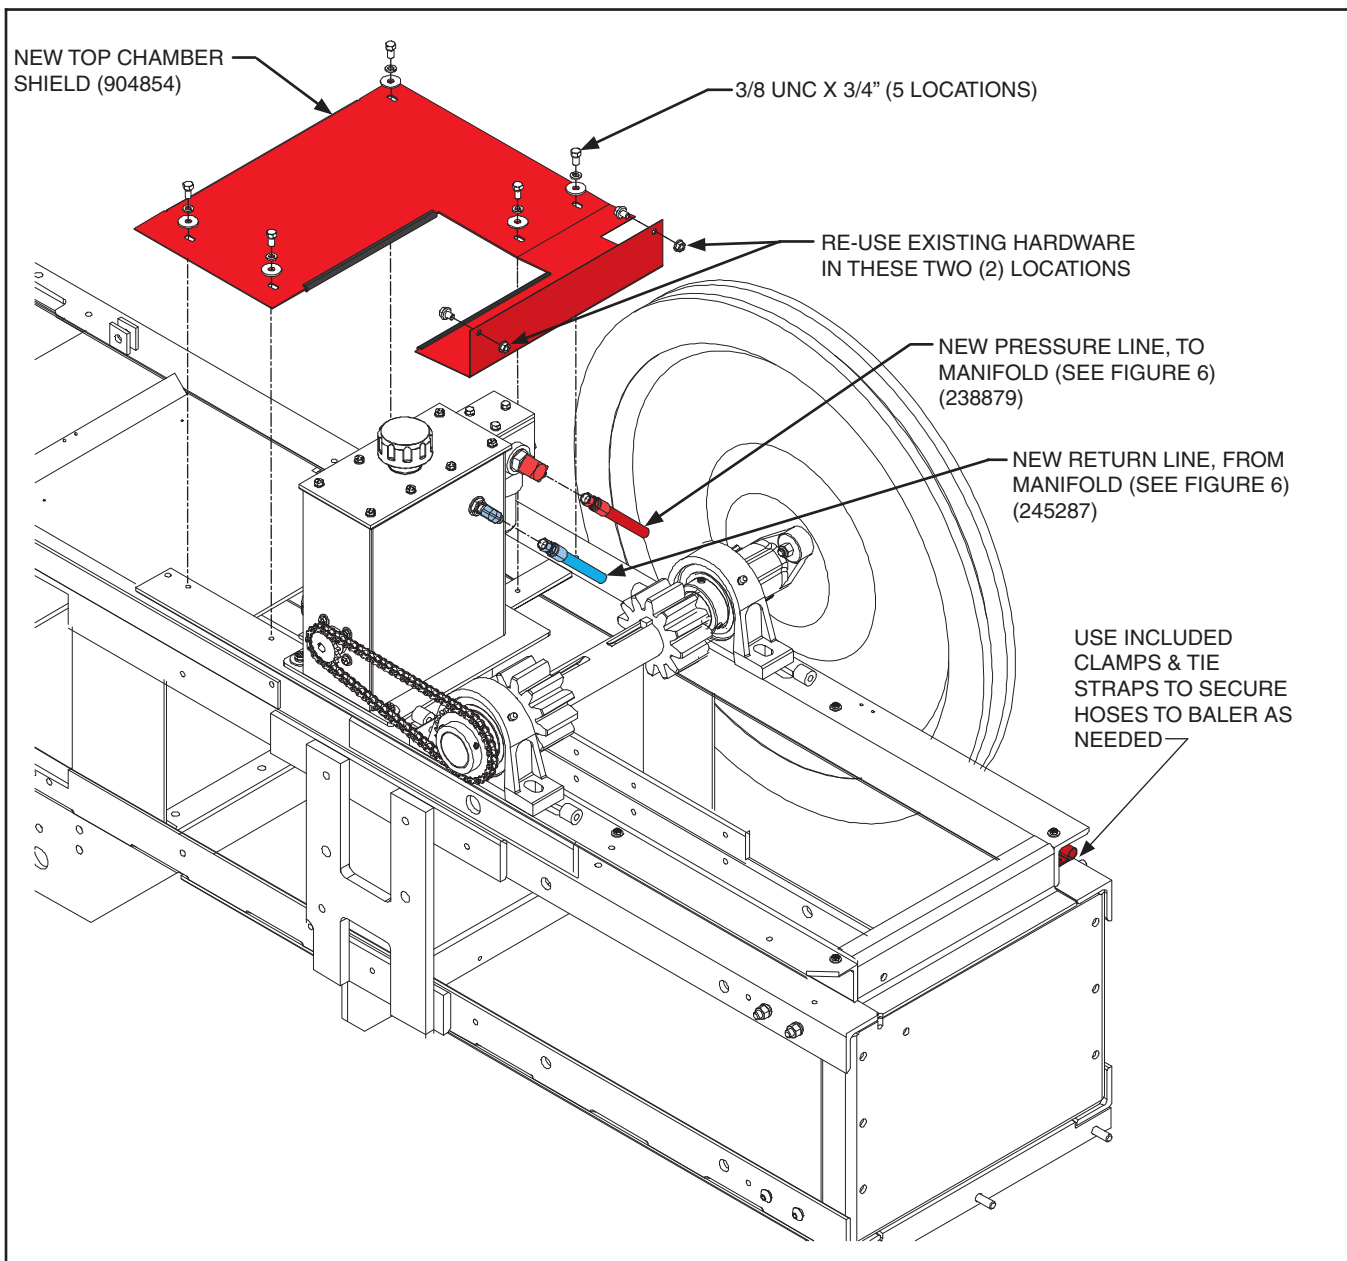

Figure 5
10. Install the new Top Chamber Shield using the provided fasteners (3/8"-16 UNC Cap Screw x 3/4", 3/8" Lockwasher, 3/8" Flat washer) and the existing hardware removed in step #3 (See Figure 5).
12. Install the new Hydraulic Hoses (See Figures 5 and 6). Connect the Pressure Line to the filter fitting on the Reservoir and the top of the baler mounted manifold. Connect the Return Line to the Reservoir Tank and the bottom of the baler mounted manifold.